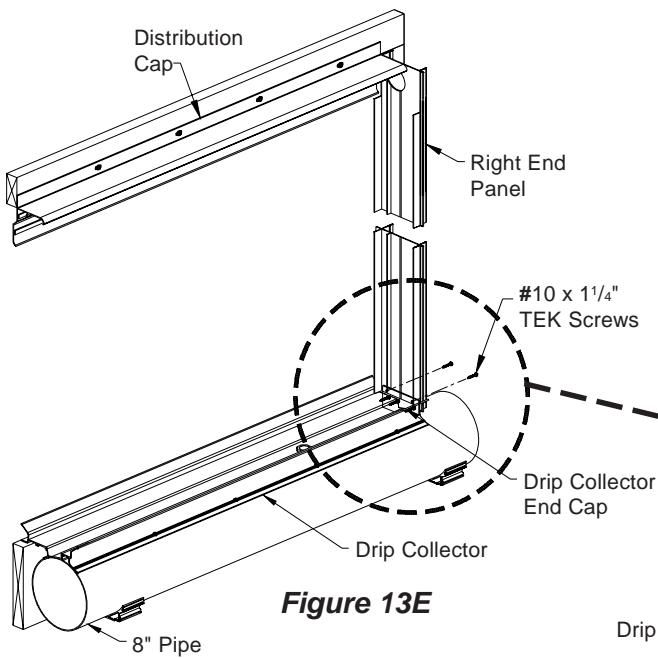

Figure 13E
- 17b) Slide right end panel into framing and into drip collector on right end. End panel should fit snug, make sure ribs sit down tight into the drip collector. Fasten the last 2 screws into the drip collector end cap using (2) 10 x 1/4" TEK screws. **See Figure 13E.**
- 17c) Hold the end panel tightly against the framing and attach end panel to framing using #10 x 1/4" TEK screws (provided), **See Figure 13E. See Chart C, page 14** for spacing and number of Lag screws provided.
- 18) Apply a bead of caulk around inside and outside of end panel and drip collector end cap where the end panel meets the drip collector and 8" pipe. **See Figure 13E and 13F.** Also caulk the screw head in bottom of drip collector and screws coming thru end panel.